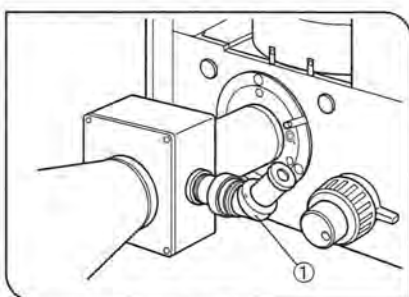

Fig. 73
- If the viewfinder of the photomicrographic system mounted on the side port is hard to view, it is recommended to use the optional U-FTV V-shaped focusing telescope ①. (Fig. 73)
- Slide the top portion of the U-FTV ① up or down until the photo masks are brought into focus. (Fig. 73)